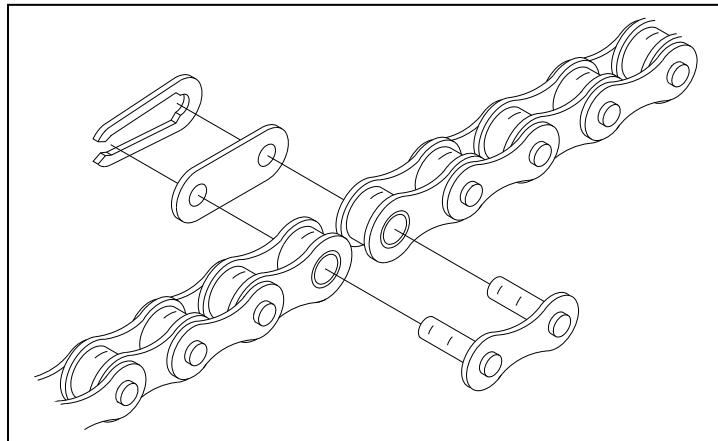

Figure 18 Chain Link
3. Connect the sprockets with the drive chain, shorten to a suitable length and join together with the chain link provided in the hardware bag. To shorten the chain, punch out the pin that will leave an inside link nearest to the desired length. Connect the chain around the sprockets using the chain link. **Refer to Figure 18, Chain Link.**